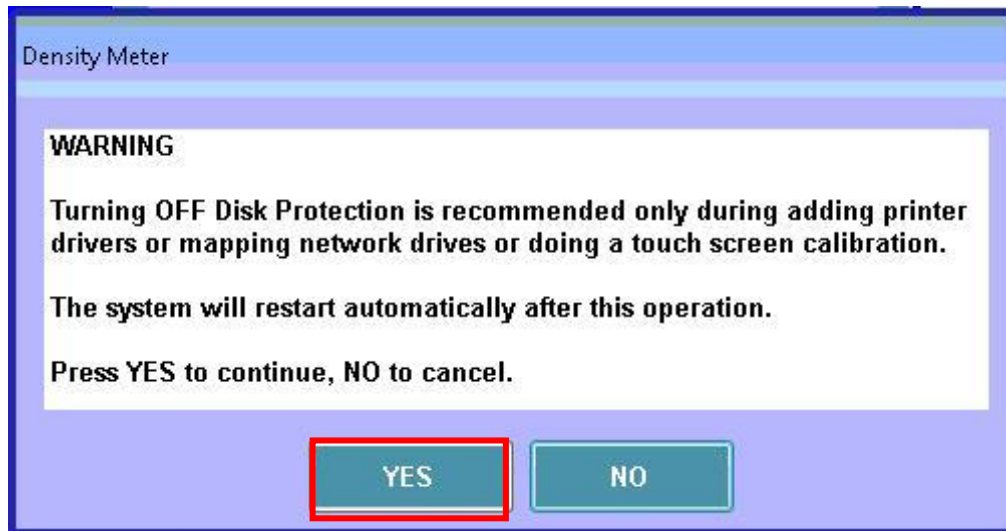

Figure 10.6 – Turn Off Disk Protection Warning Message
6. You will see the warning message shown in Figure 10.6 below. Click the Yes button.